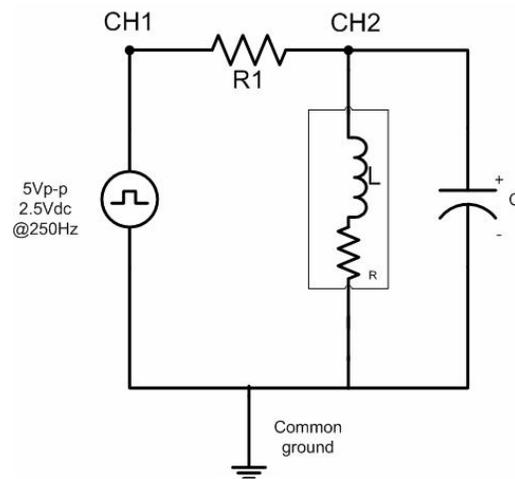

Fig.7-5
An RL circuit is shown in Fig. 7-5. Here,  $V_s$  provides a square signal with a DC offset voltage such that the bottom part of the waveform is aligned with the zero volts level.  $R_S$  is the internal resistance of the voltage source, hence when the square wave takes the value of
1. Assemble the circuit in Figure 7-5 with the component values shown in Table 7-5. Measure the internal resistance of the inductor.